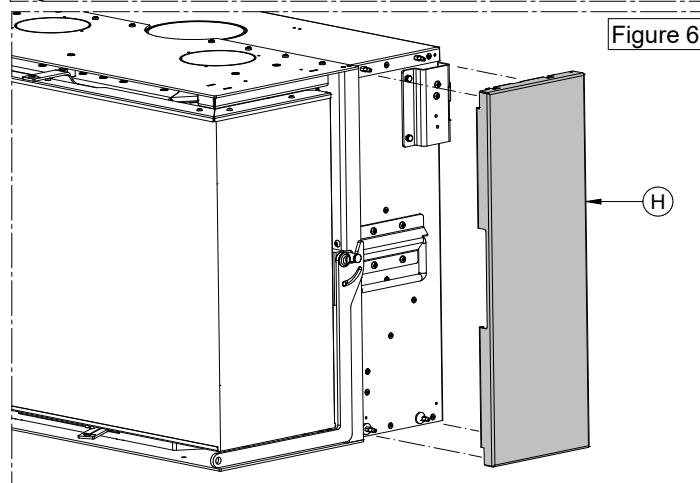
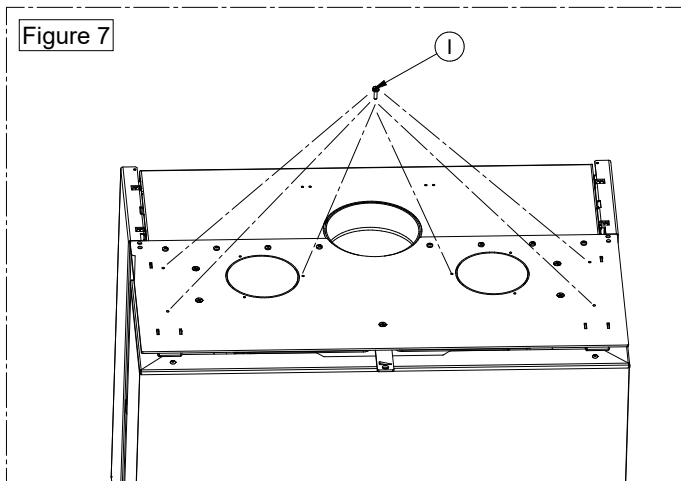

Figure 6
Figure 7
- Refit protective plate G, previously removed, using screws R (Figure 6) and proceed to transport the product, using a trolley, to its final location, lifting it from the side (Figure 7).
- 6) Snap the sides into the previously installed pins on both sides, see Figure 6.
- 7) Using the screw (I), create 6 M4 threads at the positions indicated in Figure 7.
- 6) Install both the sides I using the nuts M and L, see Figure 6.